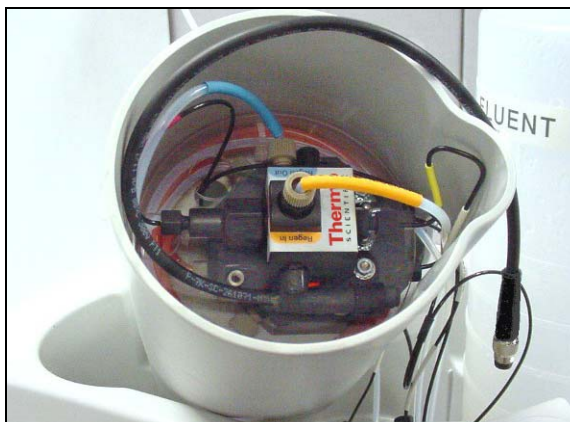

Figure 40. Dionex CR-TC Installed in Holder
5. Check that none of the lines are caught under the Dionex CR-TC and then push the CR-TC onto the metal stud inside the Dionex EGC holder (see Figure 40). Push down until the Dionex CR-TC snaps into place.